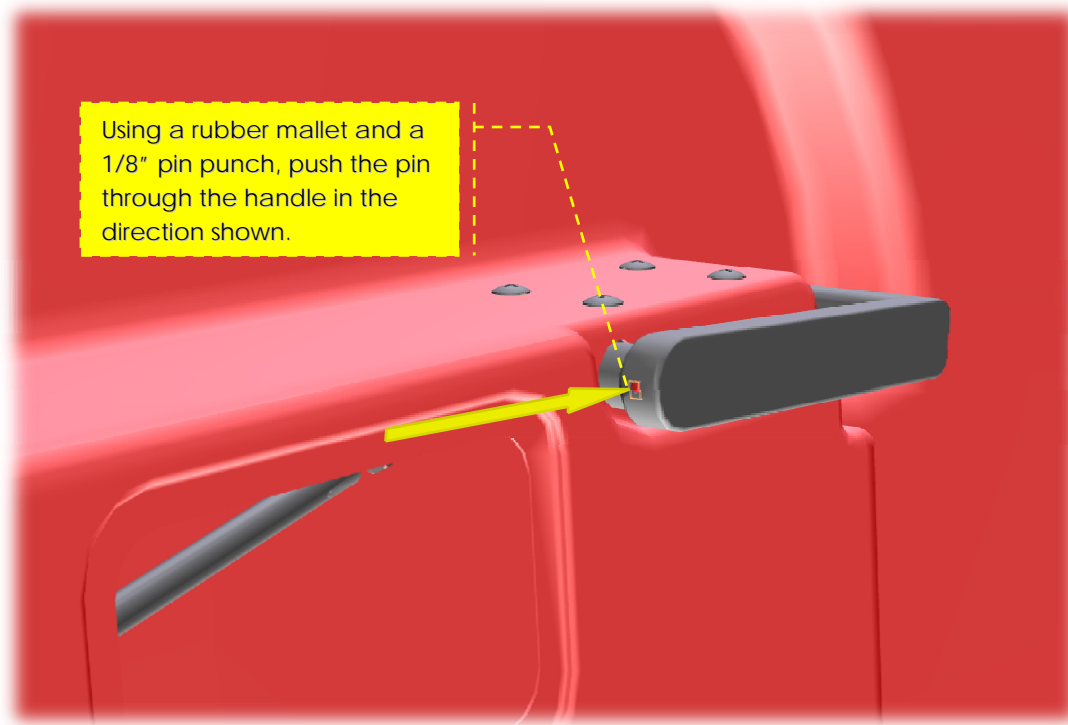

Figure 2 – Remove the Handle Roll Pin
2. The next step is to remove the handle from the door. Using a hammer and a 1/8" pin punch, tap the roll pin through the handle bracket assembly. See *Figure 2*.